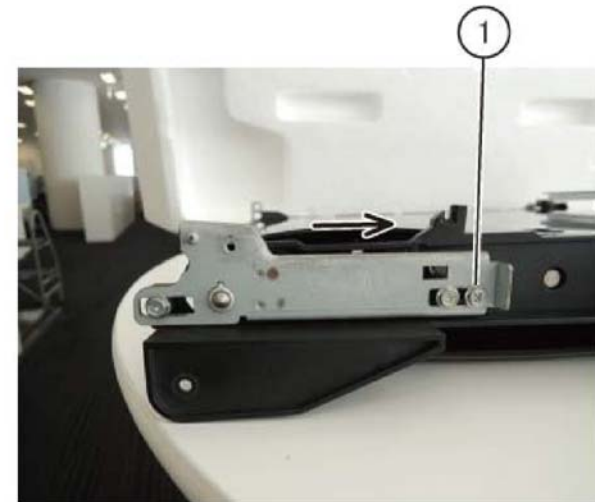

Figure 5 Front tension plate
8. Move the front tension plate towards the direction of the arrow and maintain a loose IBT belt tension. Put the removed screw in the frame hole, Figure 5.